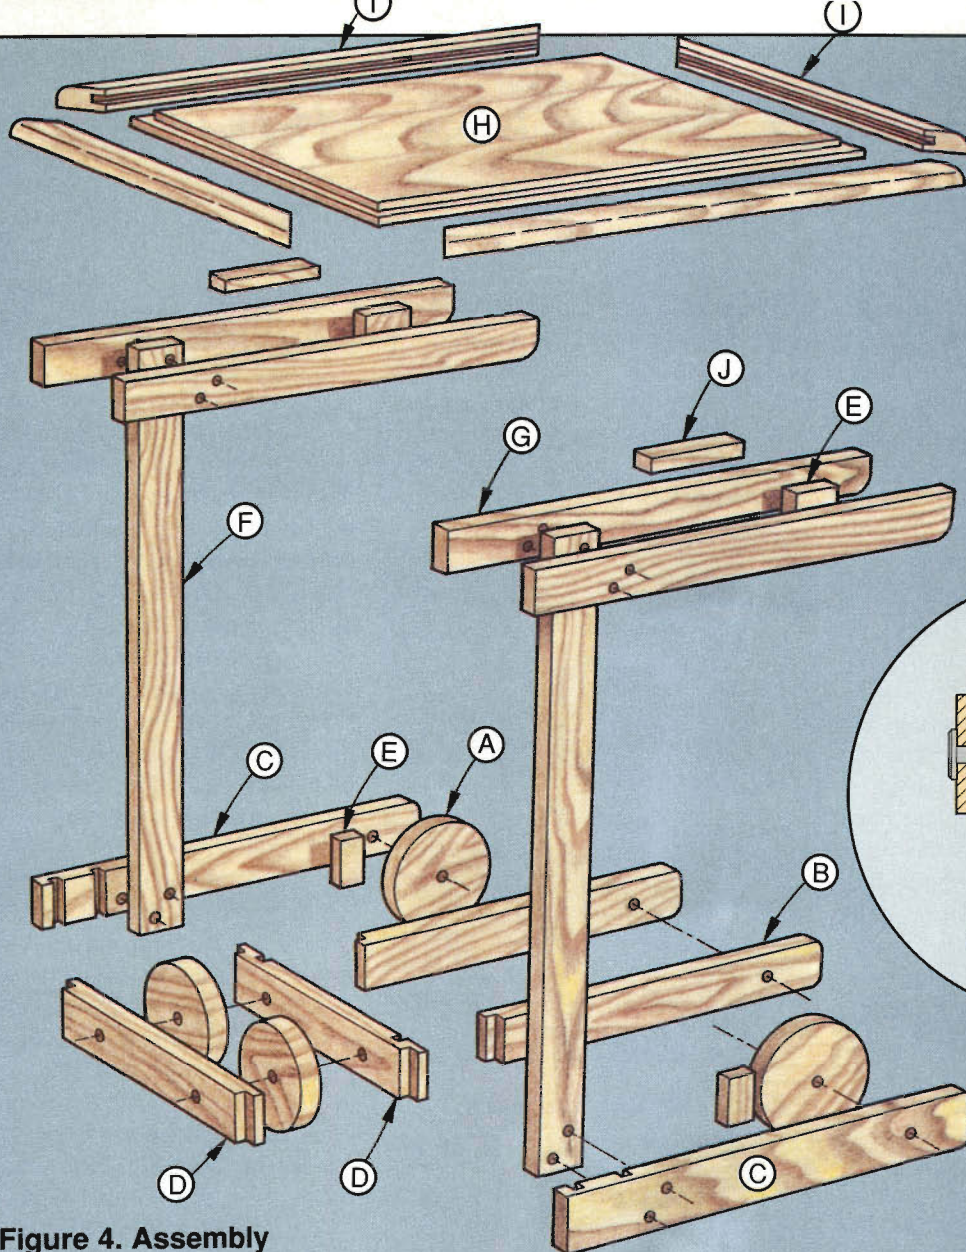

Figure 4. Assembly
The top (H) is made from plywood. Cut it to the dimensions in the Cutting List and cut a 1/4" X 1/4" rabbet on all four edges as shown in Figure 4. Mill some moulding stock (I) as shown and miter it to fit around